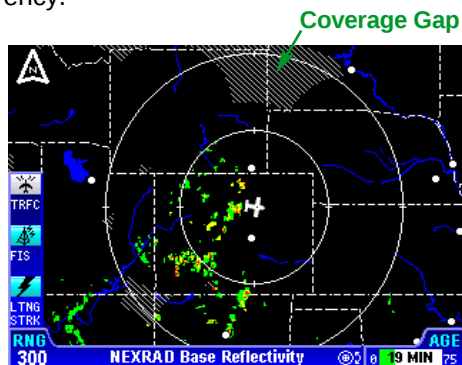

Figure 2-2
3. Due to site location limitations, terrestrial blockages and outages, NEXRAD coverage gaps exist. Coverage gaps are displayed as a cross hatched pattern as shown in Figure 2-2. Lack of reflectivity in a coverage gap area should not be construed as a lack of precipitation.